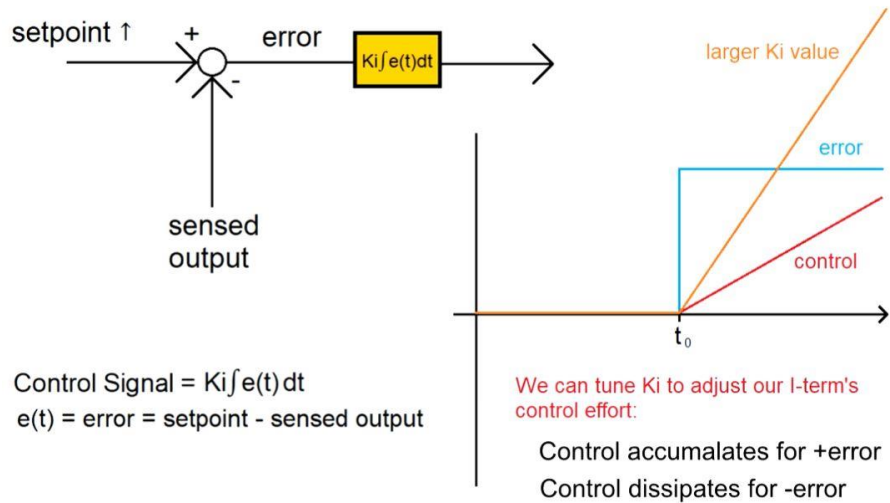

Fig 3 I-controller explaining the effect of K_i value
- Term **I** accounts for past values of the SP – PV error and integrates them over time to produce the I term. For example, if there is a residual SP – PV error after the application of proportional control, the integral term seeks to eliminate the residual error by adding a control effect due to the historic cumulative value of the error. When the error is eliminated, the integral term will cease to grow. This will result in the proportional effect diminishing as the error decreases, but this is compensated for by the growing integral effect. So, in the case of a steady state error, the integral of this is a linear rise or slope and we can see why this would eliminate the error; the control signal is either accumulating for a positive error or dissipating for a negative error. And it will keep accumulating or dissipating the control signal until the error reaches zero. This is the main advantage of integral control is that it allows us to eliminate the steady state error completely. Now by tuning the K_i term we can adjust the control effort of our integral controller. Now in this case for a high K_i value, we can see that we get a steeper slope, and this would make our control signal more aggressive as in figure 3.